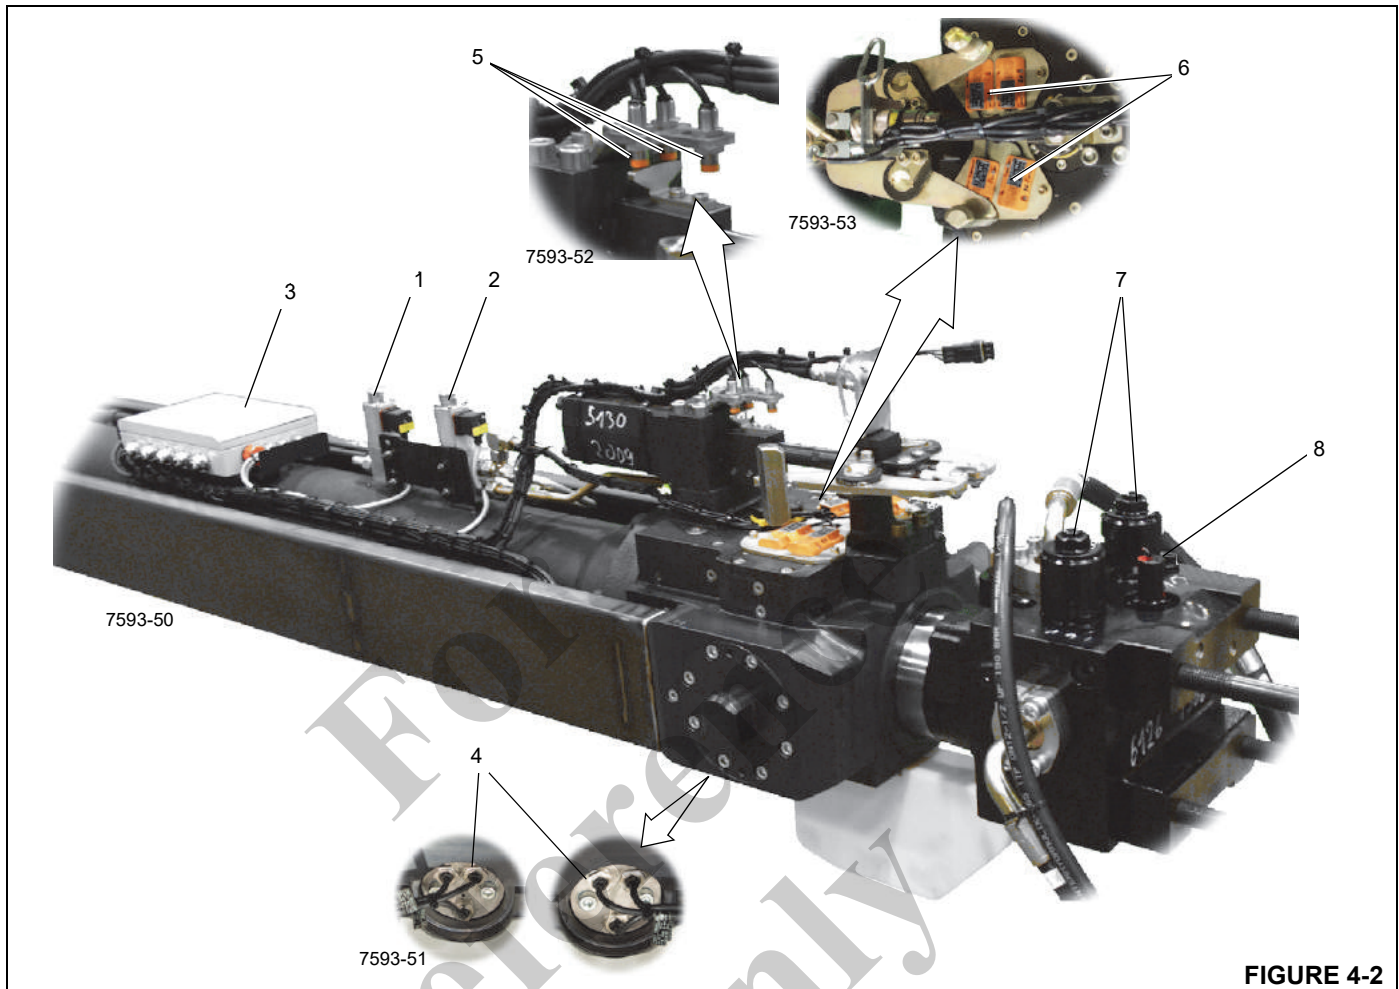

FIGURE 4-2
Two solenoid pinning valves are located on the cylinder barrel forward of the pinning head. The pressure holding valve (1) (Figure 4-2) maintains or locks hydraulic pressure in the pinning system. The cylinder pin unlock/boom section pin unlock valve (2) directs fluid to either the butterfly or the cylinder pin functions